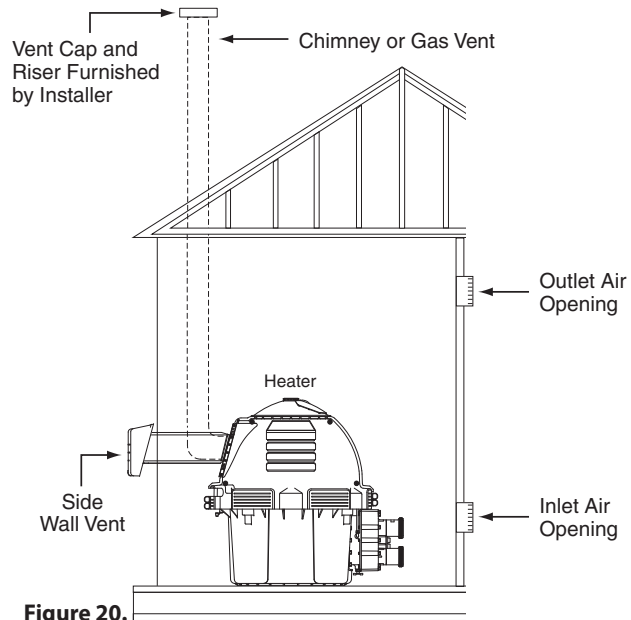

Figure 20.
HORIZONTAL OR VERTICAL VENTING - POSITIVE PRESSURE (See Figures 20, 21, and 22)
6. **Vent Termination – Vertical (See Figures 20 and 21),** for height of vent termination above the roof. Use an "Approved" vent terminal specified by local and national codes and your manufacturer's instructions. A roof termination must be vertical. In Canada, the Vent Cap location shall have a minimum clearance of 4 feet (1.2M) horizontally from electric meters, gas meters, regulators, and relief openings.
In any utility room or residential garage installation, install the heater with the base at least 18 inches (.5M) above the floor, see **Figure 20**. In a garage, install a rail or wall to protect the heater from physical damage by a moving vehicle.